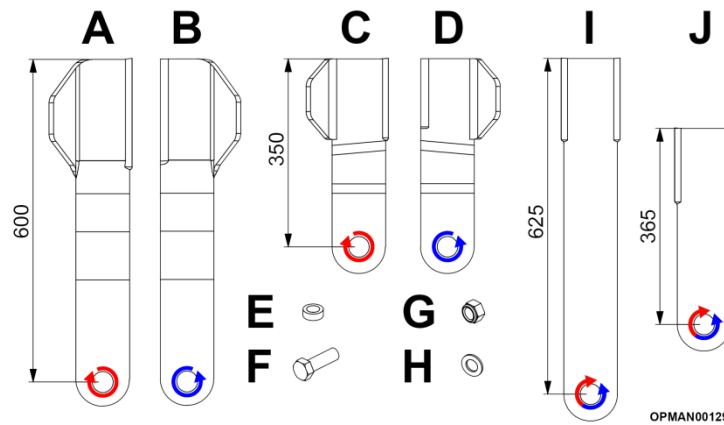

Figure 5.49
When assembling standard blade assemblies, a flat washer (see Figure 5.49 (H)) **is required** to be placed under the head of the bolt (F). Flat washers **are not** required on Starcut blade assemblies.
Figure 5.49 shows the left-hand and right-hand blades definitions and the direction in which they're meant to cut. Starcut blades can be replaced in a similar fashion; however they are not handed.